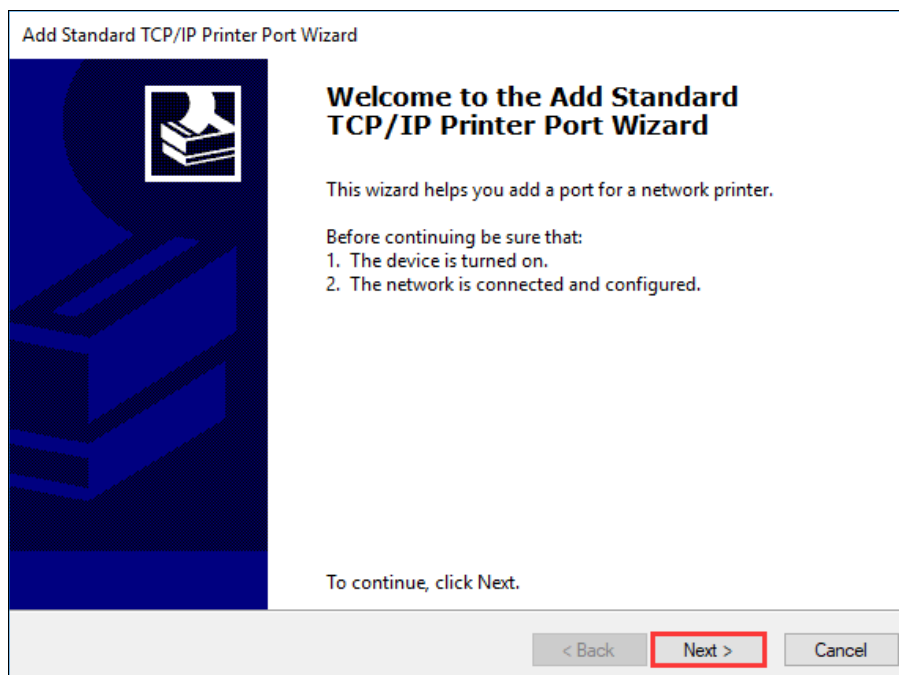

Figure 2-43 Add Standard TCP/IP Printer Port Wizard
- The “Add Standard TCP/IP Printer Port Wizard” screen displays, click “Next”, as shown in Figure 2-43.